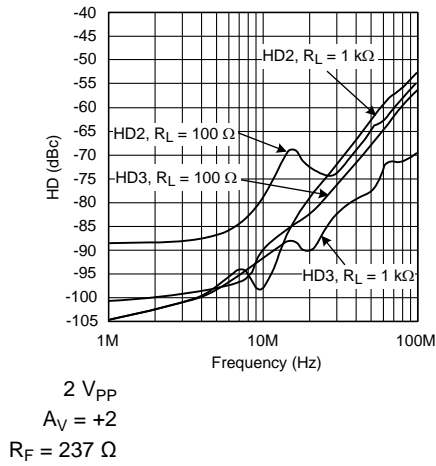

Figure 9. Harmonic Distortion vs. Load and Frequency (SOIC package)
2. Ultra-low distortion approaching -87 dBc at the lower frequencies and exceptional noise performance (see Figure 9 and Figure 17).